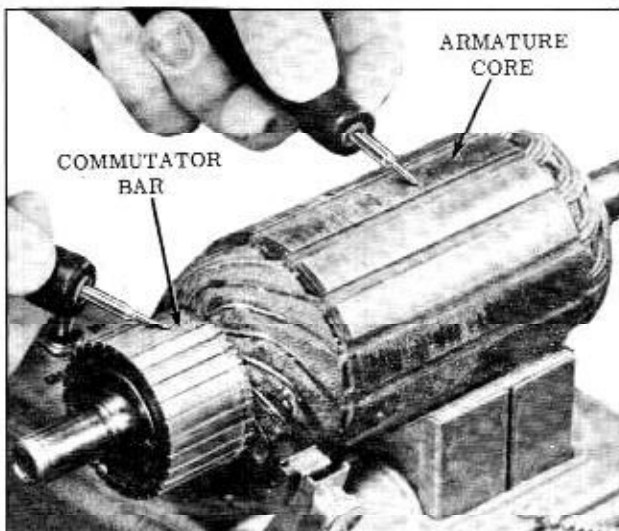

Fig. 13-23 Testing Armature for Ground
6. Place one lead of 110 volt test lamp on the armature core and the other lead on each commutator bar. (Fig. 13-23) If lamp lights, armature is grounded and must be replaced.